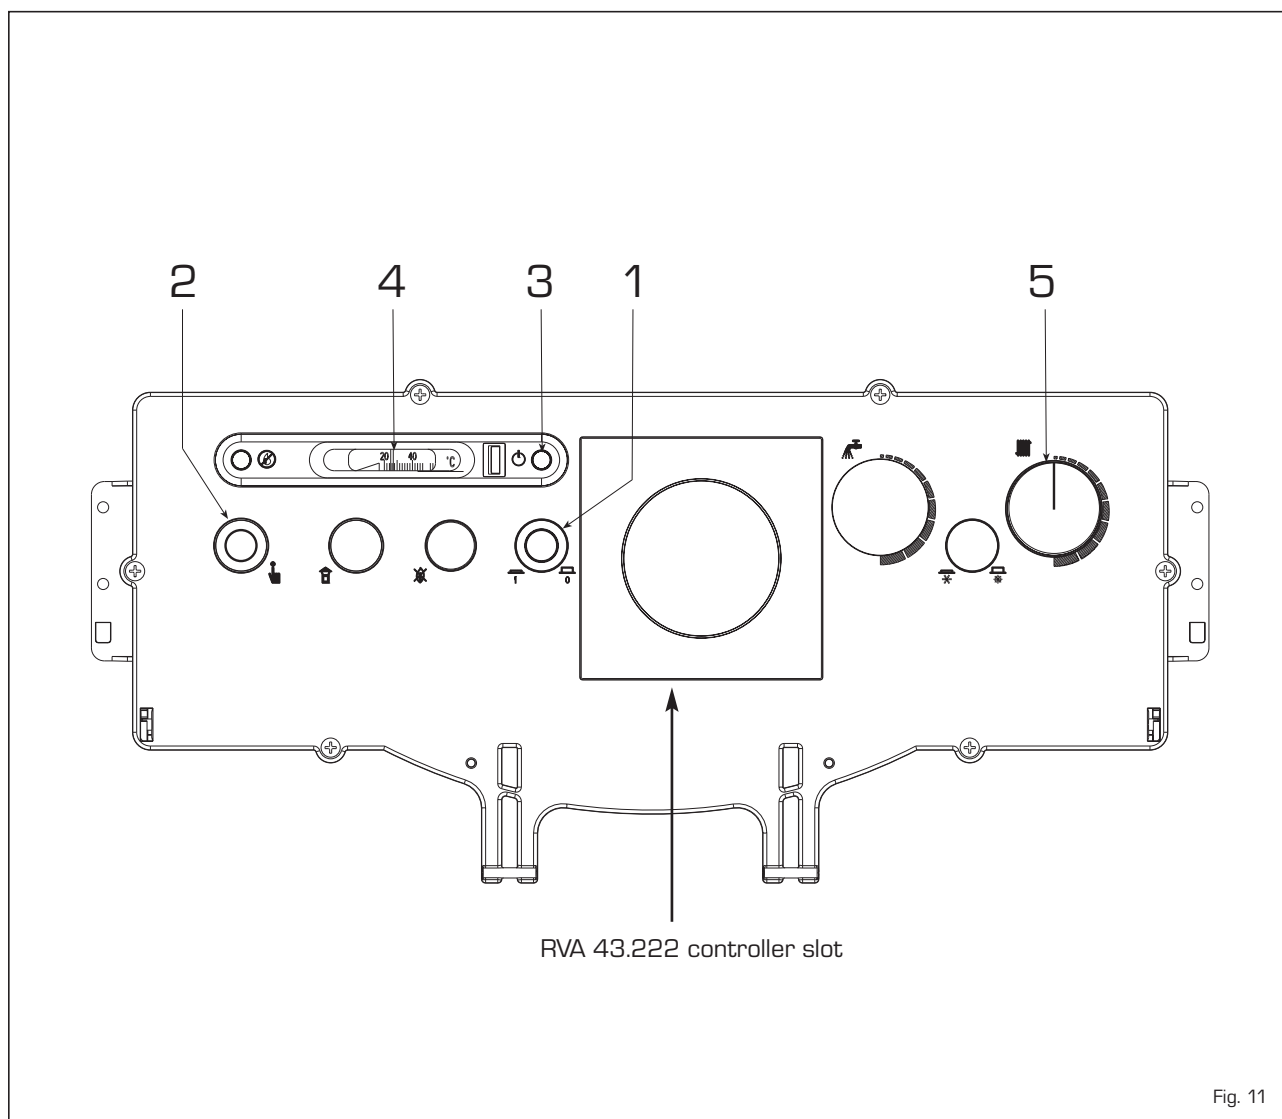

Fig. 11
All functions of the "2R GT OF" boiler may be controlled using the controller; optional code 8096303, which is supplied with an outdoor temperature probe (SE) and a boiler immersion probe (SC). The controller is installed in the control panel in place of the relating cover (fig. 11). The controller is to be connected to an additional series of low voltage connectors for connection of the room temperature control unit (the connectors are supplied in a bag inside the control panel). The probe bulb of the external hot water tank, if any, (SS) code 6277110, must be inserted in the hot water tank sheath, while the bulb of the boiler probe (SC) must be inserted in the boiler sheath. When assembling the outdoor temperature probe, follow the instructions provided in the probe package. Refer to fig. 9/a for wiring instructions.
(fig. 11):
The safety stat with automatic reset calibration set at 100°C (2 fig. 11) trips, immediately turning off the burner when the boiler accidentally overheats.
To temporarily turn off the boiler turn off the electricity supply by pressing the main switch (1 fig. 11).